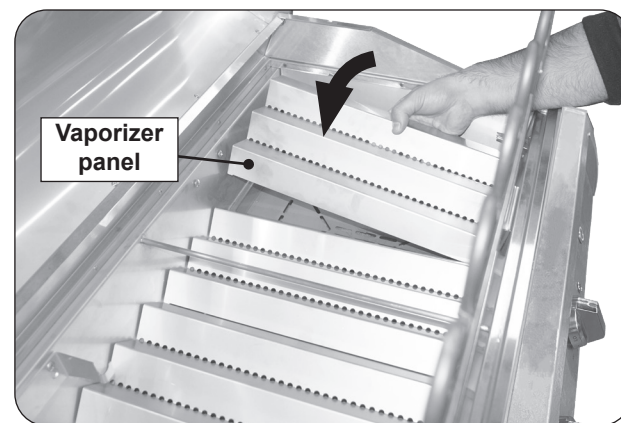

Fig. 27-2 Install vaporizer panels
3. With the support bracket removed, carefully place the vaporizer panels down into the electric grill as shown in Fig. 27-2.